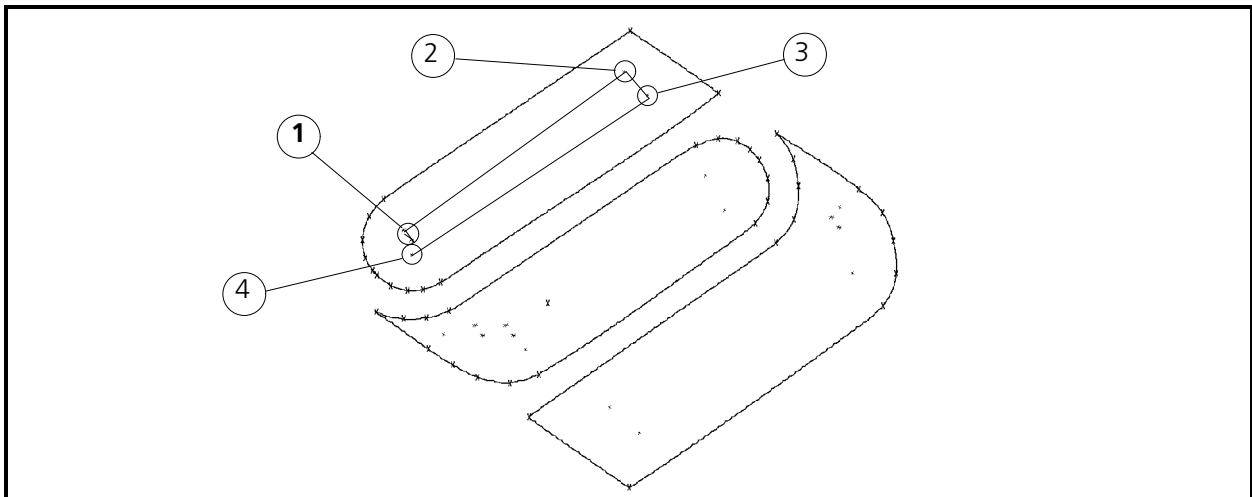

Figure 3-58
6. Position the tablet cursor in the area in the shape identified as location 1 in Figure 3-58 and enter a Mk1.